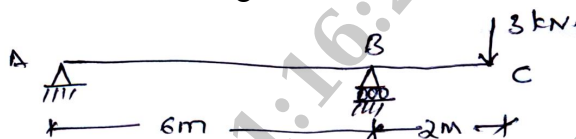

Fig.Q7(b)
b. Determine the vertical deflection at the free end for the overhanging beam shown in Fig.Q7(b). Assume constant EI. Use Castiglione's method.